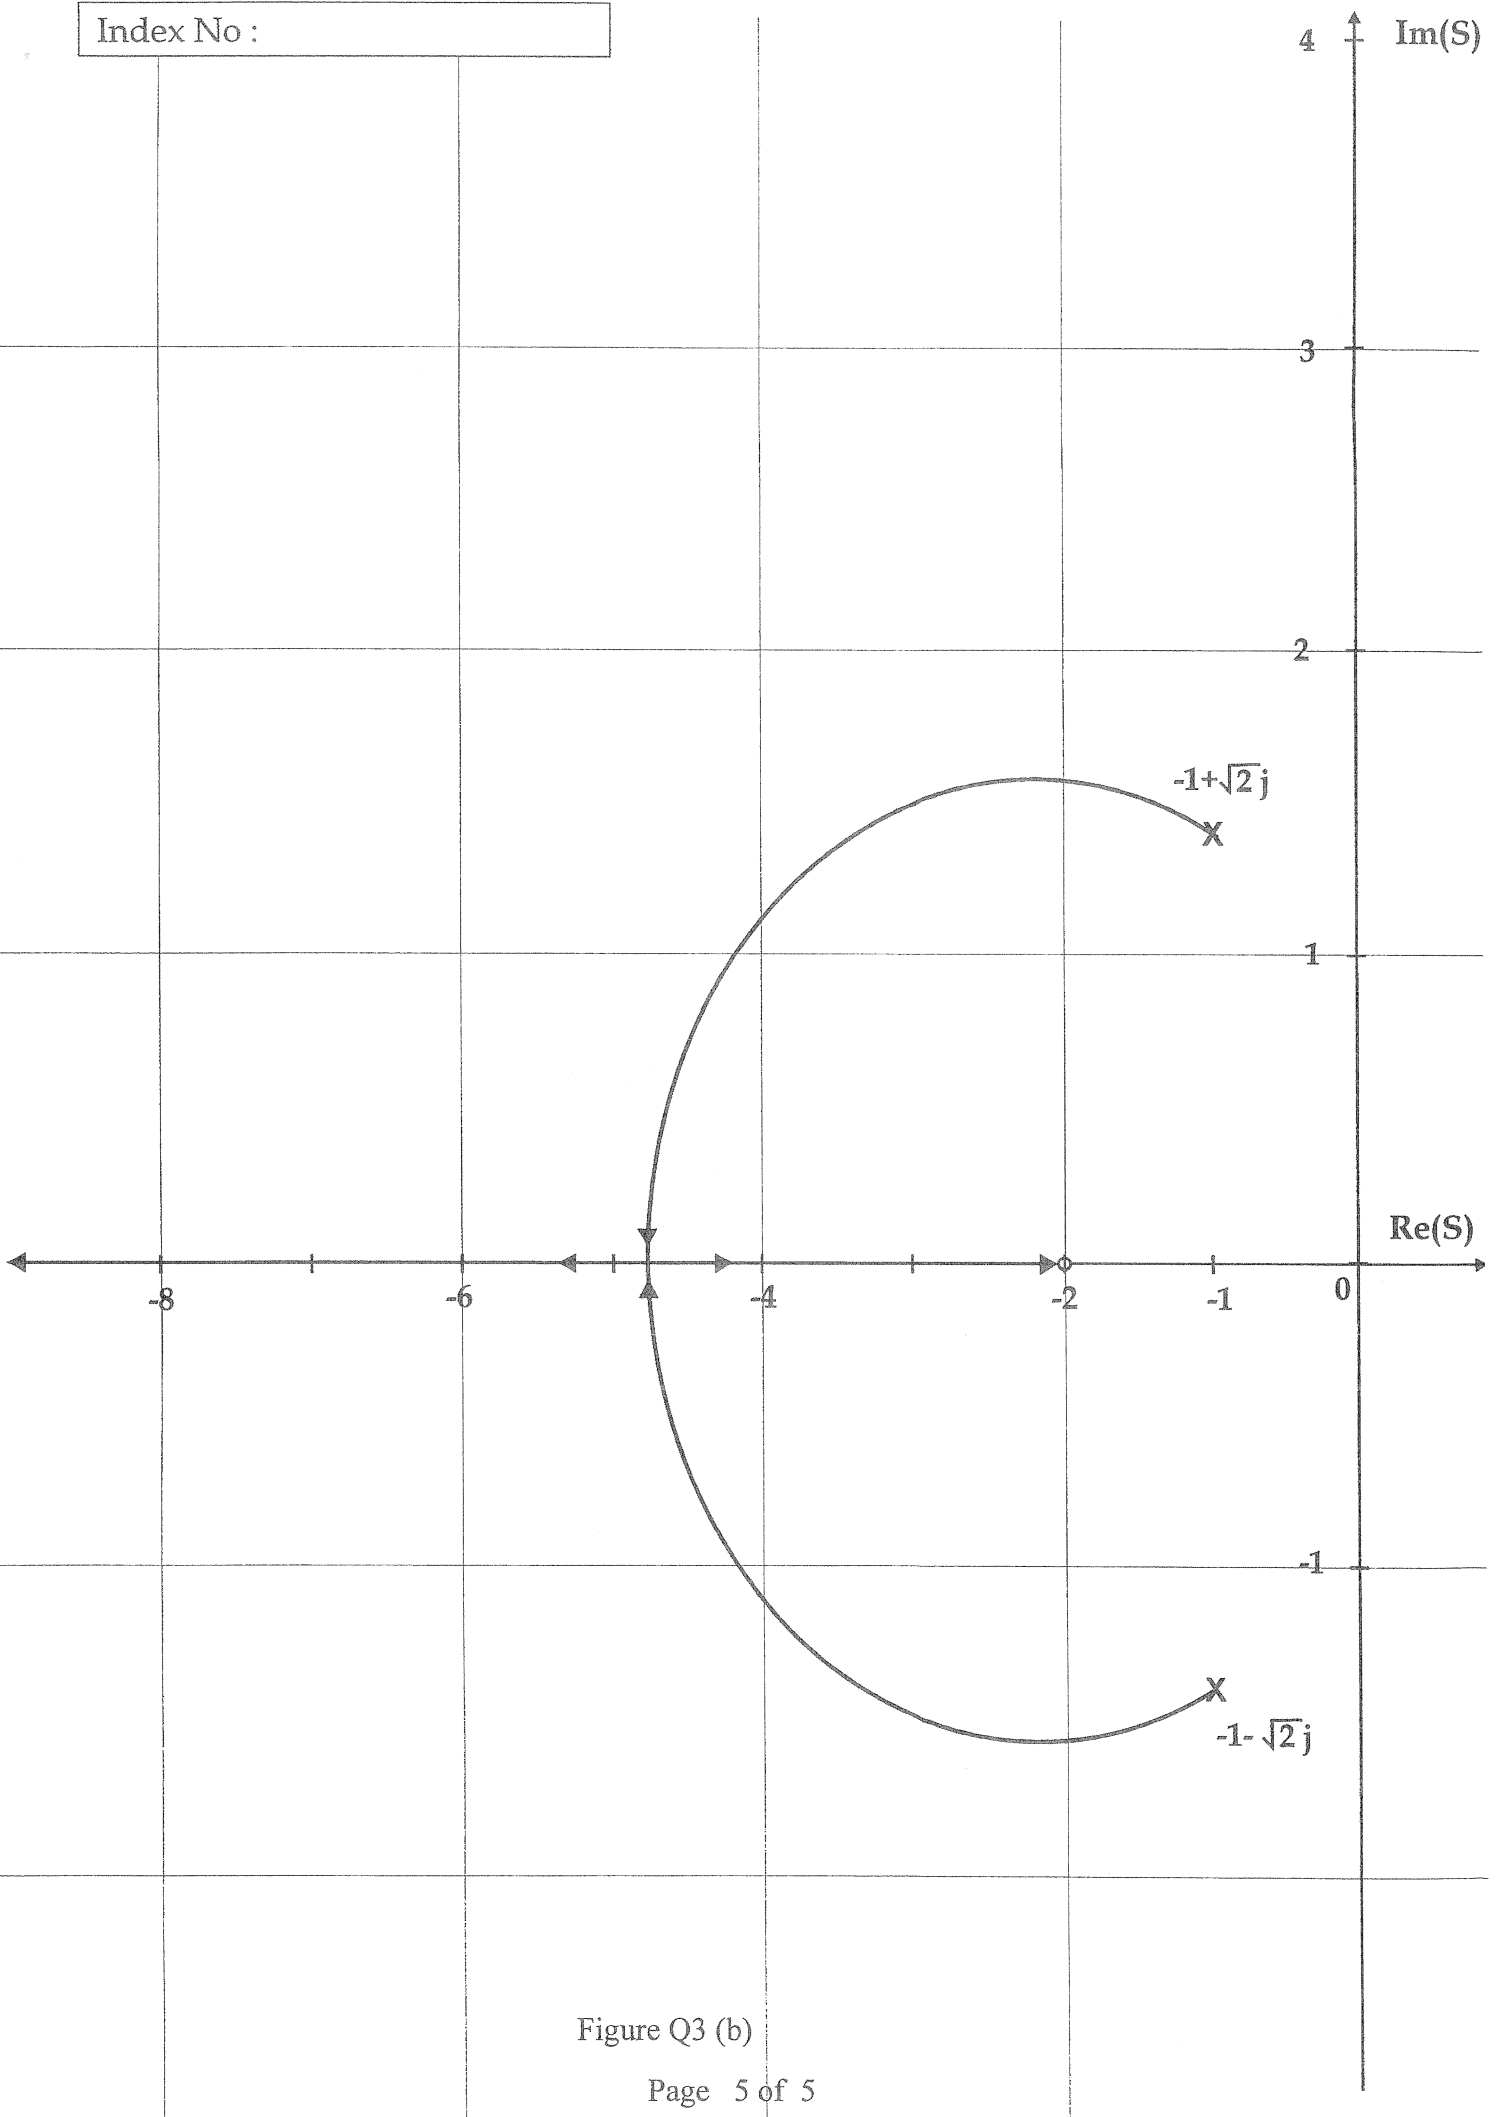

Figure Q3 (b)
- b) Consider the root locus given in Figure Q3 (b). It is desired to increase the system speed to  $\omega_n = 3 \text{ rads}^{-1}$  while maintaining the damping ratio ( $\xi$ ) at 0.5. Using the root locus of the closed loop system given in Figure Q3 (b), show that the design requirement cannot be achieved.